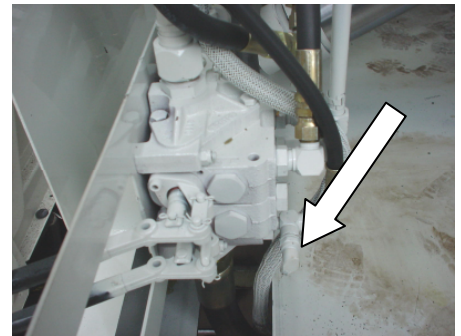

Fig. 1
- ❑ 2- Attach a 0-3000 psi glycerin filled gauge on a 2-foot hose with the female coupler...to the gauge stem that exists at the body-mounted valve's inlet cover. <FIG 1>